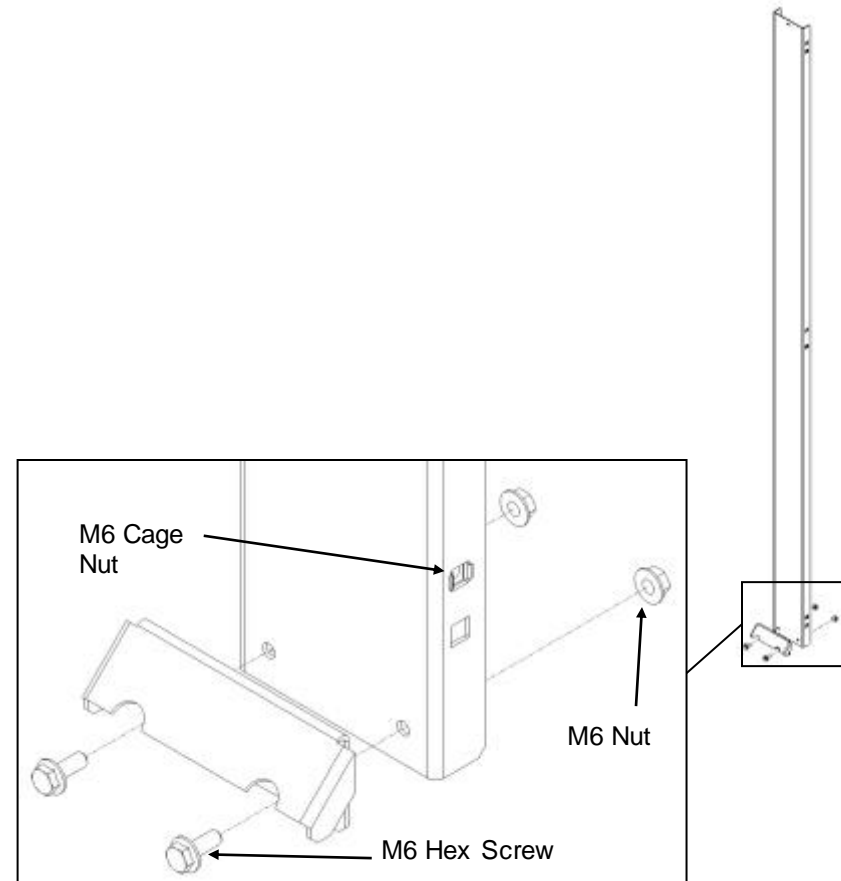

Figure 1
1. Attach bottom bracket to baying mounting panel using M6 screws and serrated flange nuts (torque 88 IN-LB [9.9 N-M]) (Figure 1).
2. Install one M6 cage nut at top, middle, and bottom of mounting panel height on both sides (Figure 1).